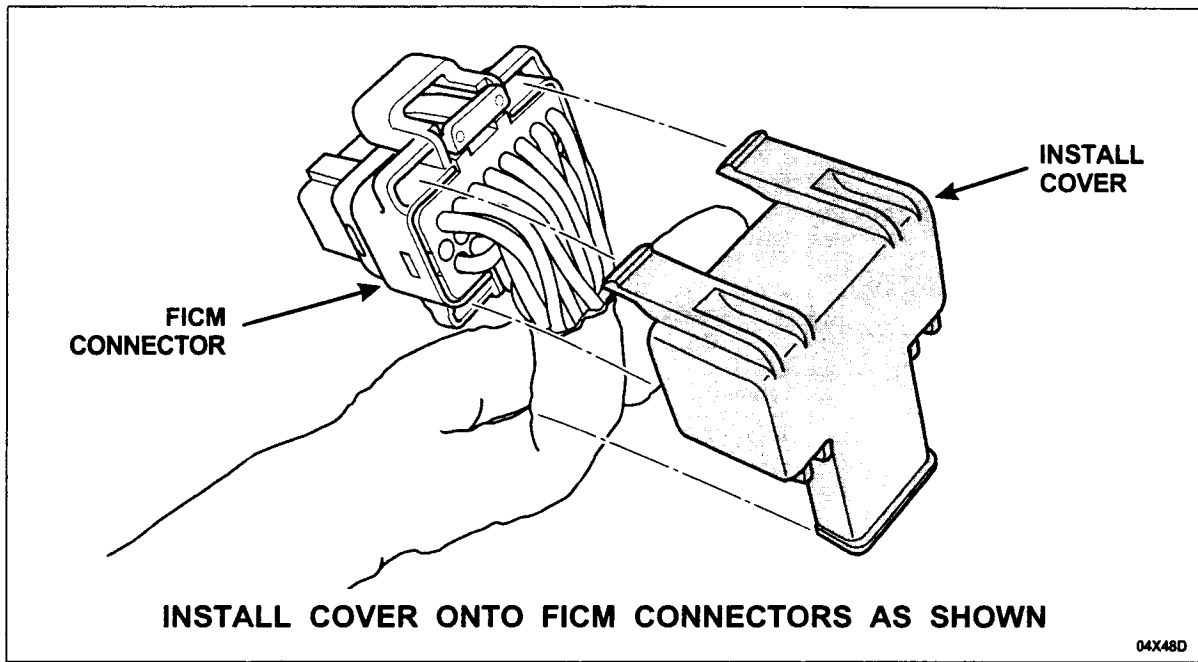

FIGURE 4
1. Install the harness connector covers onto **both** FICM injector harness connectors by carefully bending the wires coming out of the connector and snapping the cover in place. See Figure 4.